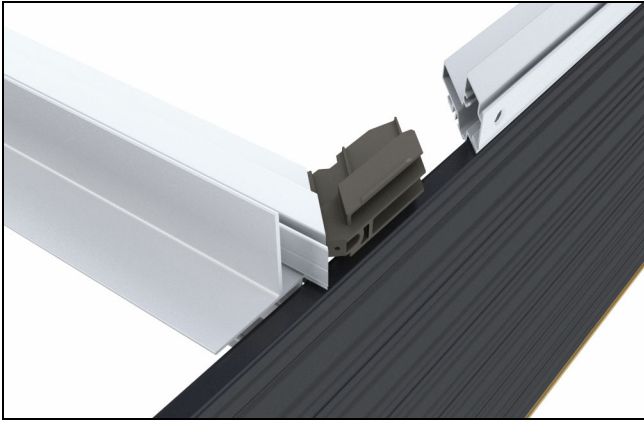

Figure 63
8. On pocketing interlock, insert frame cladding corner key into mitered end and align with head jamb cladding using key as reference. See figure 63.